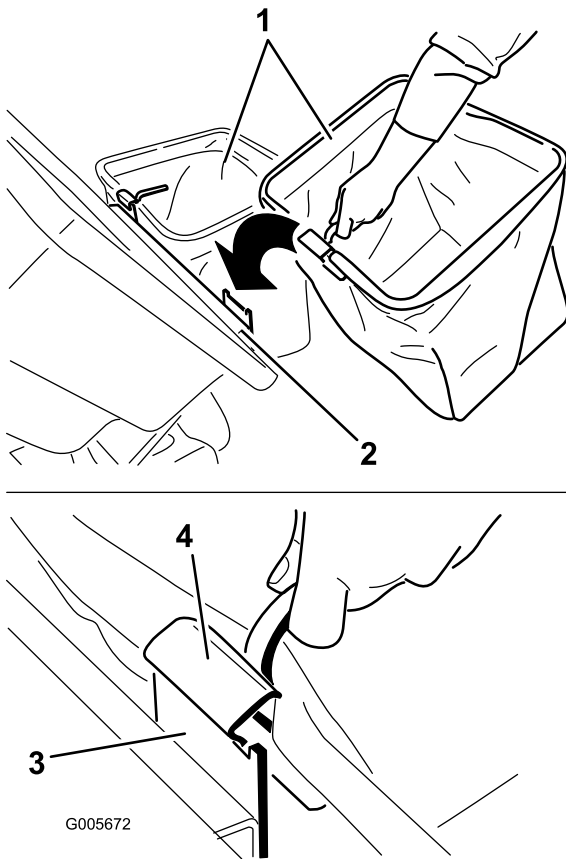

Figure 46
5. Install the bags by sliding the bag frame hooks onto the retaining brackets (Figure 46).